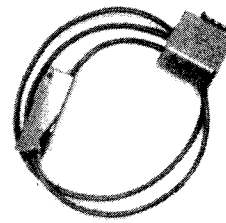

Figure 1
A. It is a special cable which can be used instead of the standard device-to-data link cable (92905A) to monitor Data Link traffic and locate cable faults. (See Figure 1.)